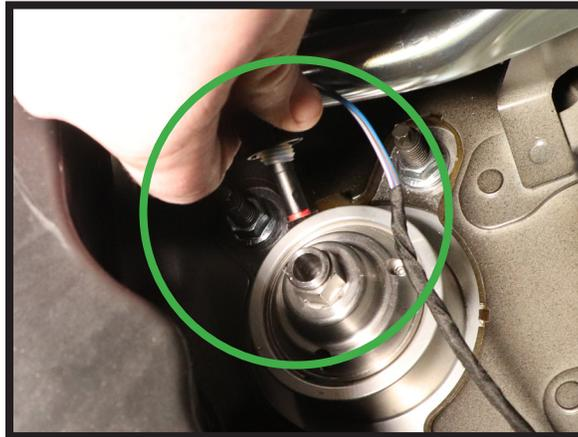

FIGURE 2
5. DISCONNECT ELECTRICAL CONNECTION. (FIGURE 2)